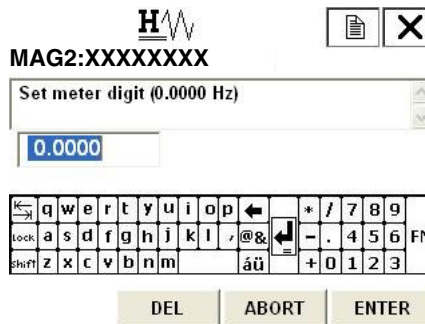

Figure 124.
5. A numerical value input display (Figure 124) then appears. Measure the pulse frequency from the transmitter and enter the frequency by the Hz into the device. Once the input has been completed, press F4 (ENTER). The transmitter starts adjusting to 90 Hz automatically, and returns back to the display as shown in Figure 123. Verify that the pulse output is 90 Hz, and terminate the adjustment.